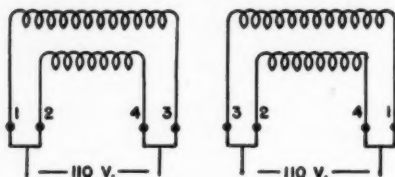

Fig. 1—Arrangement of motor leads.
After finding a circuit, mark one lead (1) and the other lead (3). The other two leads left will be a circuit also. Number them (2) and (4). Hook (1) and (2) together. Then hook (3) and (4) together. If motor operates OK on 110 volts, this is the right hook up. If it is wrong, motor will not run but hum loudly. Then reverse lead (3) with (1) and hook up again as originally. See Fig. 1.